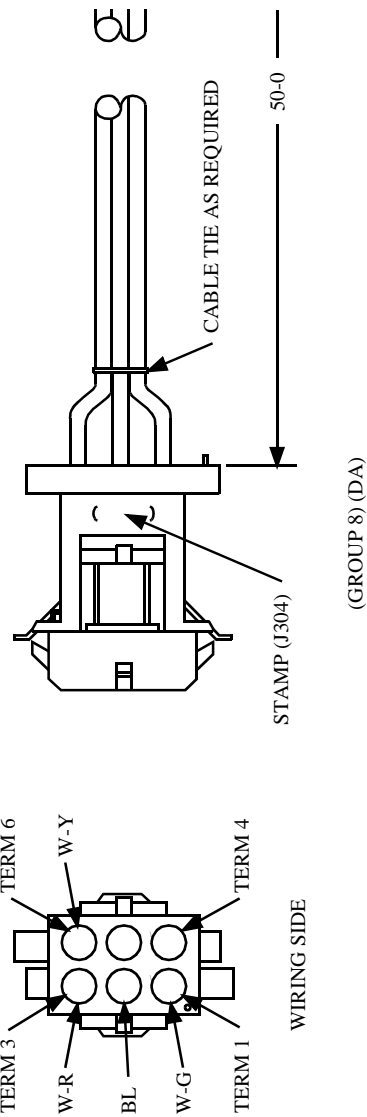

Figure 3-16. ED-7C723-35 Group 8 Cable Assembly
15. Locate the ED-7C723-35, Group 8 or 8A cable assembly and connector P304 on the SLC-2000 ARM shelf. See Figures 3-16 and 3-17 and Tables 3-5 and 3-6.
If a cable is not connected to the P304 connector on the SLC-2000 ARM shelf, then you must provide one (and connected) or the P304 connector must be connected (spliced) to the Group 10 cable using local procedures. Refer to Table 3-4 and Figures 3-16 and 3-17.